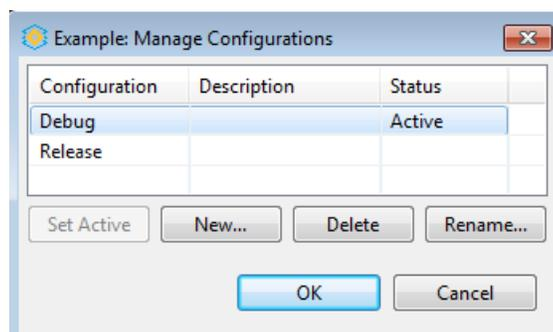

Figure 3.22. Manage Configurations Dialog
- b. The Manage Configurations dialog opens (Figure 3.22) for choosing active configuration. By default, a **Debug** configuration creates executables containing additional debug information that lets the debugger make direct associations between the source code and the binary files generated from the original source. A **Release** configuration provides the tools with options setting to create an application with the best performance.